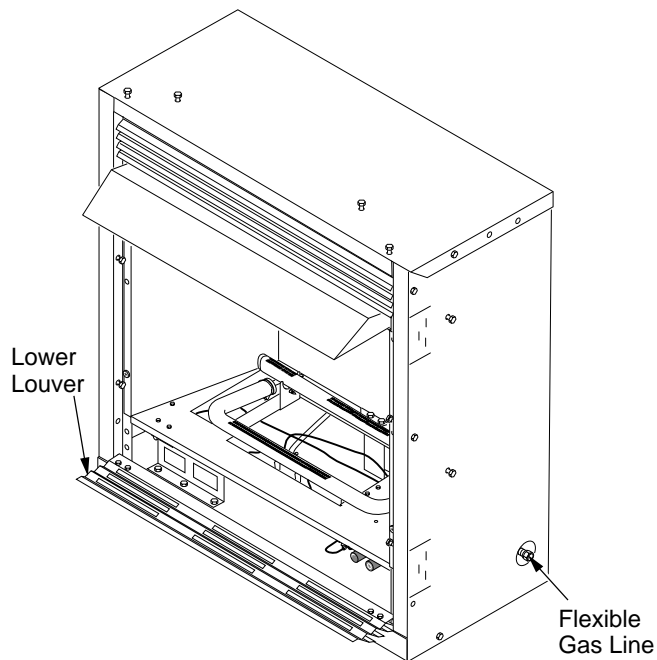

Figure 21 - Flexible Gas Line Location (Remote-Ready Unit Shown)
1. Open lower louver (see Figure 21).